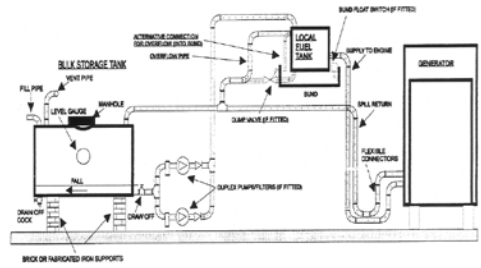

Fig.4.2. With Intermediate Fuel Tank
4.6. With Intermediate Fuel Tank (Fig.4.2)
1. An automatic duplex fuel transfer pump and primary filter system arranged to start the standby pump should the duty pump fail. The transfer pump(s) must be sized to cater for the total fuel required by the engine, i.e. fuel consumed and the spill return volumes (Fig.4.2.)
The connection details for these additional items of equipment are indicated. See Fig. 4.2.